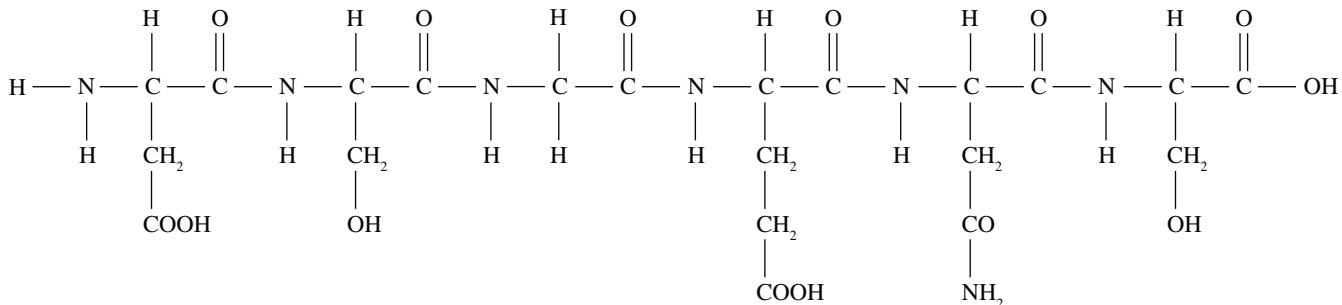

FIGURE 15.2.11 A polypeptide.
- 3** Figure 15.2.11 shows a polypeptide. Which one of the following statements about this polypeptide is correct?